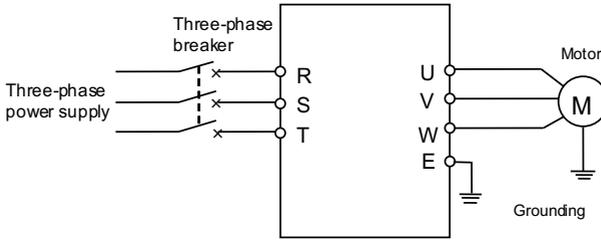

Figure 5-3 Wiring for the operation of SVC mode
- Connect as per Figure 5-3;
- Press  key to start frequency inverter. If the name plate parameters (F2.0.00 ~ F2.0.04)of the motor are modified in ③, the primary static parameter identification will be started automatically, the frequency inverter will output 0 frequency and the auxiliary display column will display the current output current (not limited by F0.0.13 at this time). When the display current is stable as 0.0, the automatic learning is finished and operation is started;